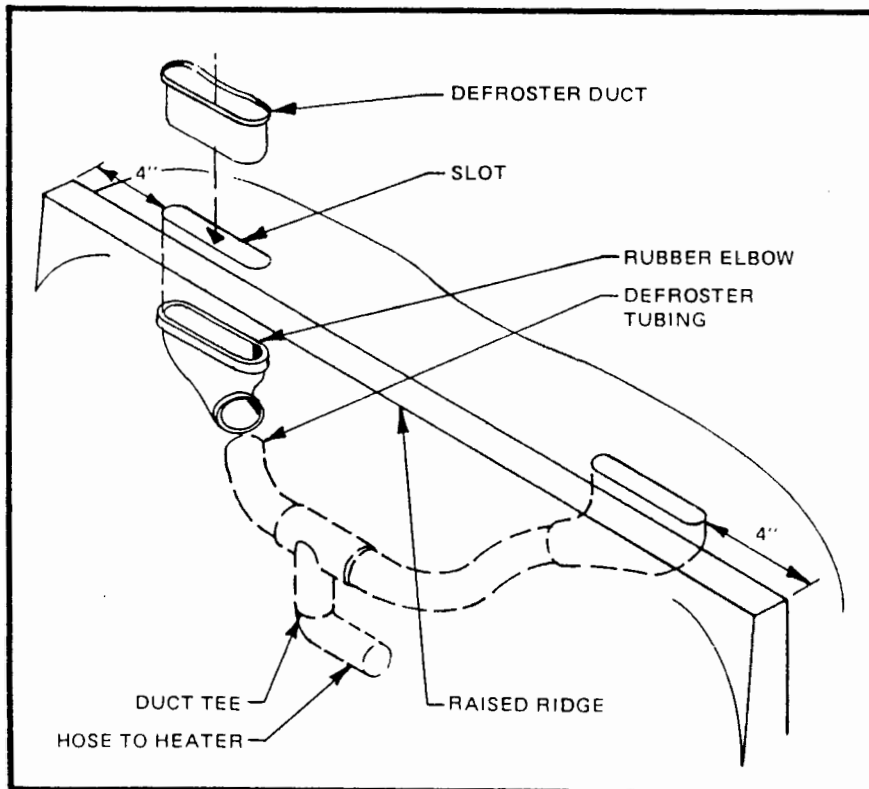

Figure 9
- Cut slots for defroster ducts just behind the raised ridge, which supports the windshield. (Figure 9) Note, you can use an electric drill with rotary file or rasp.